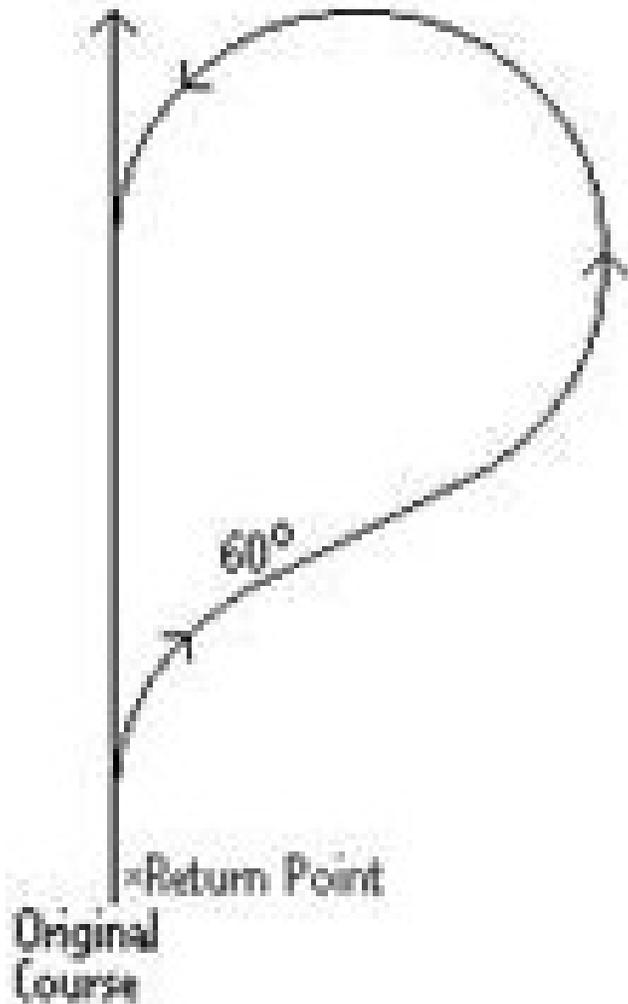

Figure 551-8ST-1039_04 (Williamson Turn)
(2) Scharnow turn (Figure 551-8ST-1039_05). The Scharnow turn is a maneuver used to bring a ship or boat back to a point it previously passed through, often for the purpose of recovering a man overboard. The Scharnow turn is most appropriate when the point to be reached is significantly further astern than the vessel's turning radius. To make the turn, do the following: